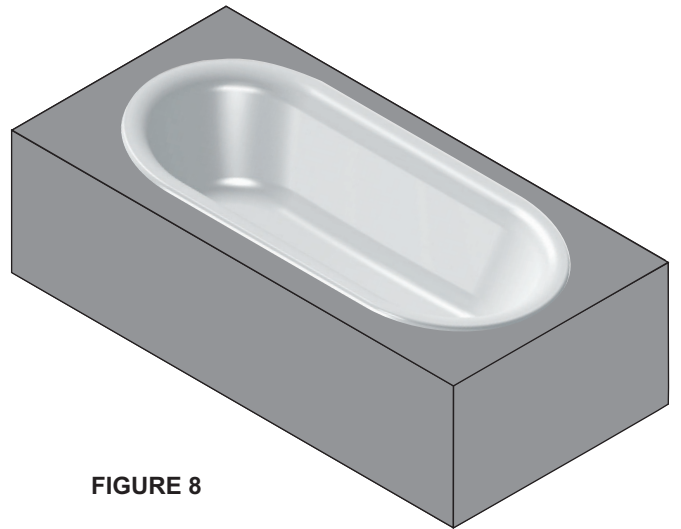

FIGURE 8
NOTE:- Template should be 1" less than the outer profile so that the flange rests on the board as shown in figure 8.
- See figure 8 for a complete installed tub.